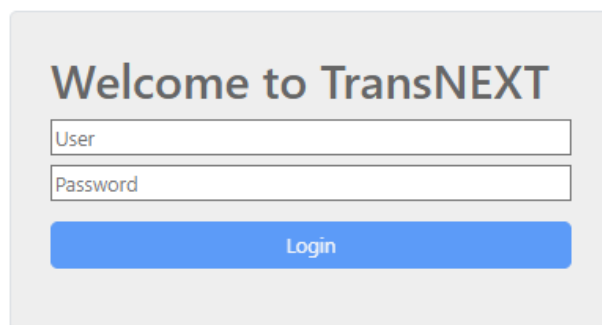

Figure 3-2. Login Screen
3. Enter the unit's IP address in a web browser window, just as you would enter a website address. When the login screen appears (Figure 3-2. Login Screen), enter the User Name and Password for the unit. (The default entries for a new unit are "admin" for username and a unique 10-character password printed on the unit.) Click the **Login** button.